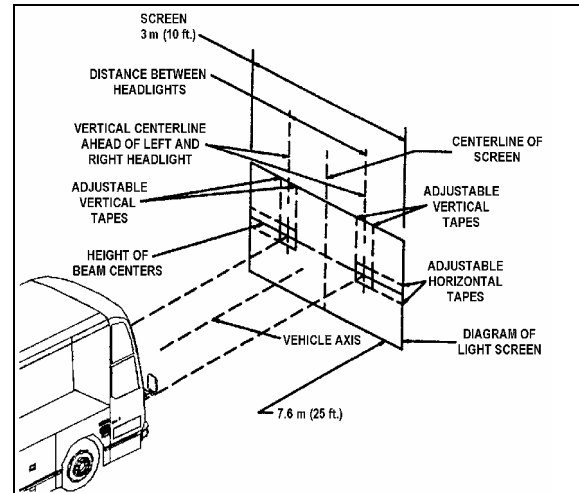

FIGURE 57: ALIGNMENT OF HEADLIGHT AIMING SCREEN
3. The headlight centerlines shall be spaced either side of the fixed centerline on the screen by $\frac{1}{2}$ the lateral distance between the light source centers of the pertinent headlights. The horizontal tapes should be located on the screen at the upper and lower limits called for in the specification with reference to the height of beam centers and the plane on which the vehicle rests, not the floor on which the screen rests (Fig. 57).